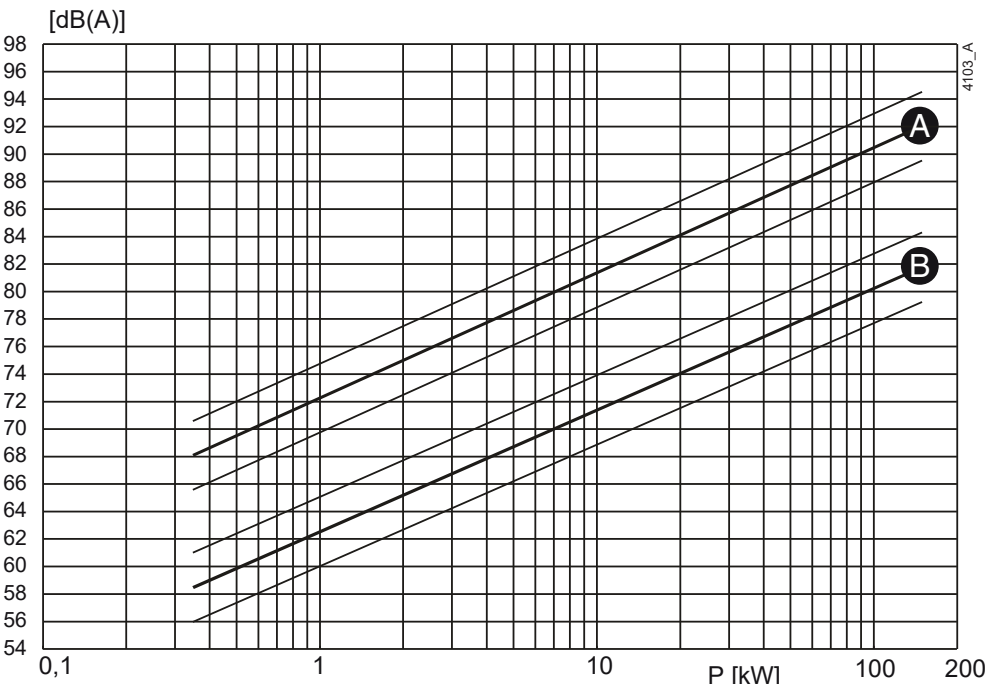
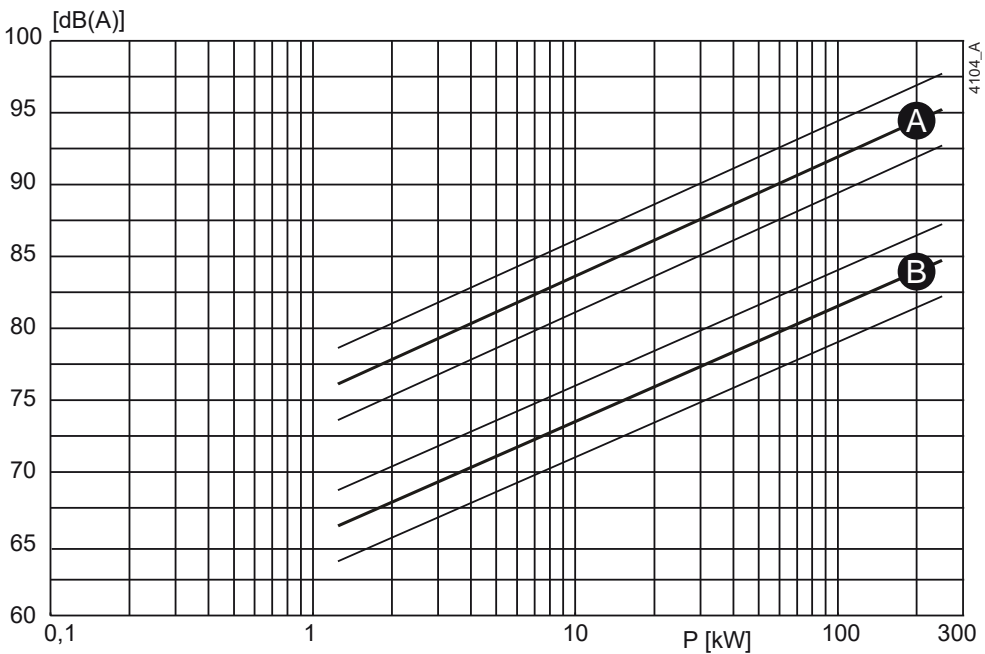

Figure 31: Noise level as function of pump power [kW] at 1450 min^{-1}
Figure 32: Noise level as function of pump power [kW] at 2900 min^{-1}
- 1 Determine the noise level (L_1) of the pump, see figure 31 or figure 32.